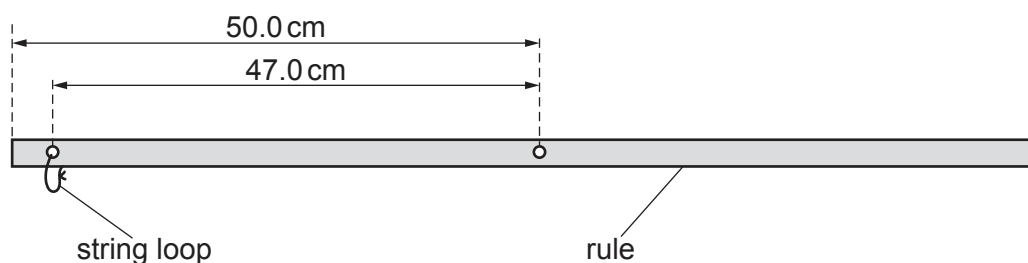

Figure 1.1
- 2 Drill two holes, each of diameter 3 mm, in the metre rule at the positions shown in Figure 1.1.